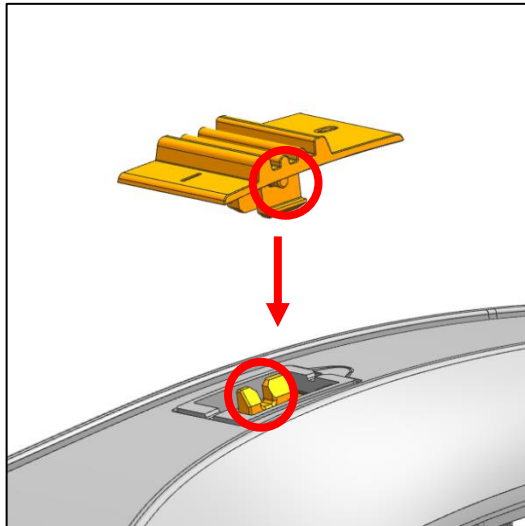
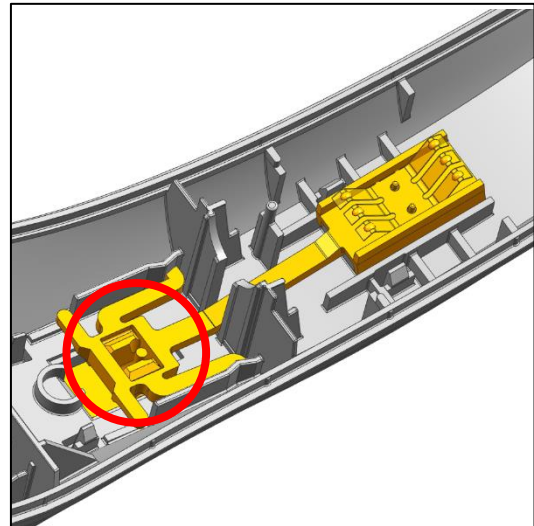

Fig. 26
Fig. 27
- b) From the outside, push the sliding switch into the switch recess in the direction of the housing (Fig. 26). Hold the switch lever in position.
Attention: Make sure that the guide pins of the switch dip into the corresponding switch lever recess (Fig. 26) and that the snap-fit hooks securely lock with the switch lever (Fig. 27).